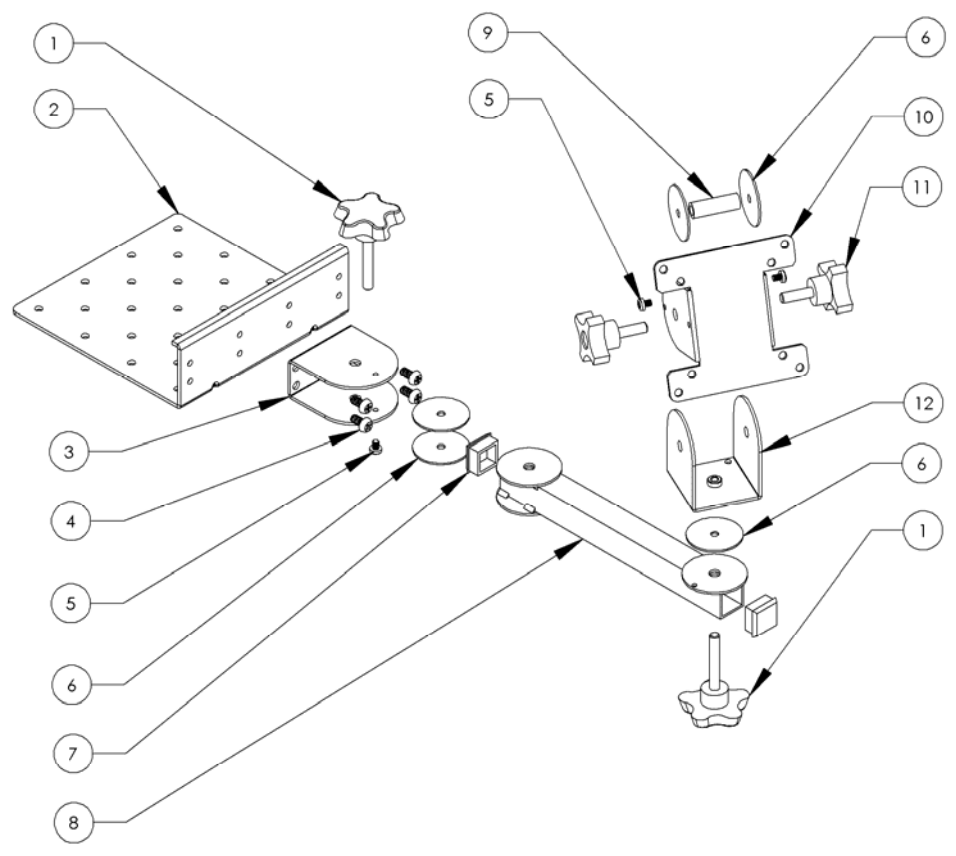

Figure 5 - Under Counter Mount w/ 8" arm, and a Screen Pan and Tilt Head (PN 80200)
1. The *Under Counter (UC) Mounting Plate* features three patterns of ¼”-20 threaded holes for the insertion of the four mounting screws that attach the SB (Stand Off) brackets and arms to the mounting plate (See Figure 5). The mounting screw pattern allows the SB bracket(s) and arm(s) to be removed and remounted to the plate. The SB bracket(s) provide the first pivot point for the arm(s) allowing a full range of side to side motion.
4. Securely attach the mounting plate to the underside of the mounting surface with several fasteners that are appropriate for the mounting surface material (See Figure 5).
1. Lay the silicone anti-slip washer on the top of the end of the arm (See Figure 5).